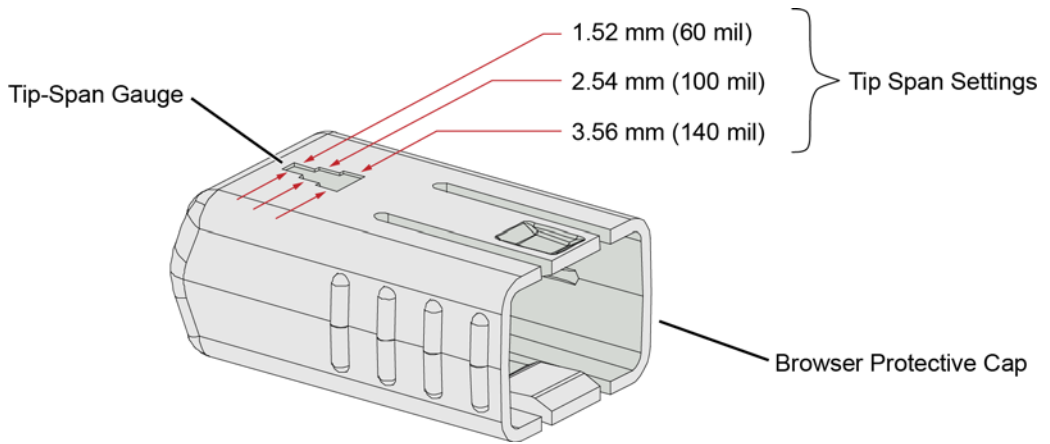

Figure 31 Tip Span Gauge on Browser Protective Cap
- 2 Locate the tip-span gauge on the browser's protective cap as shown in Figure 31.